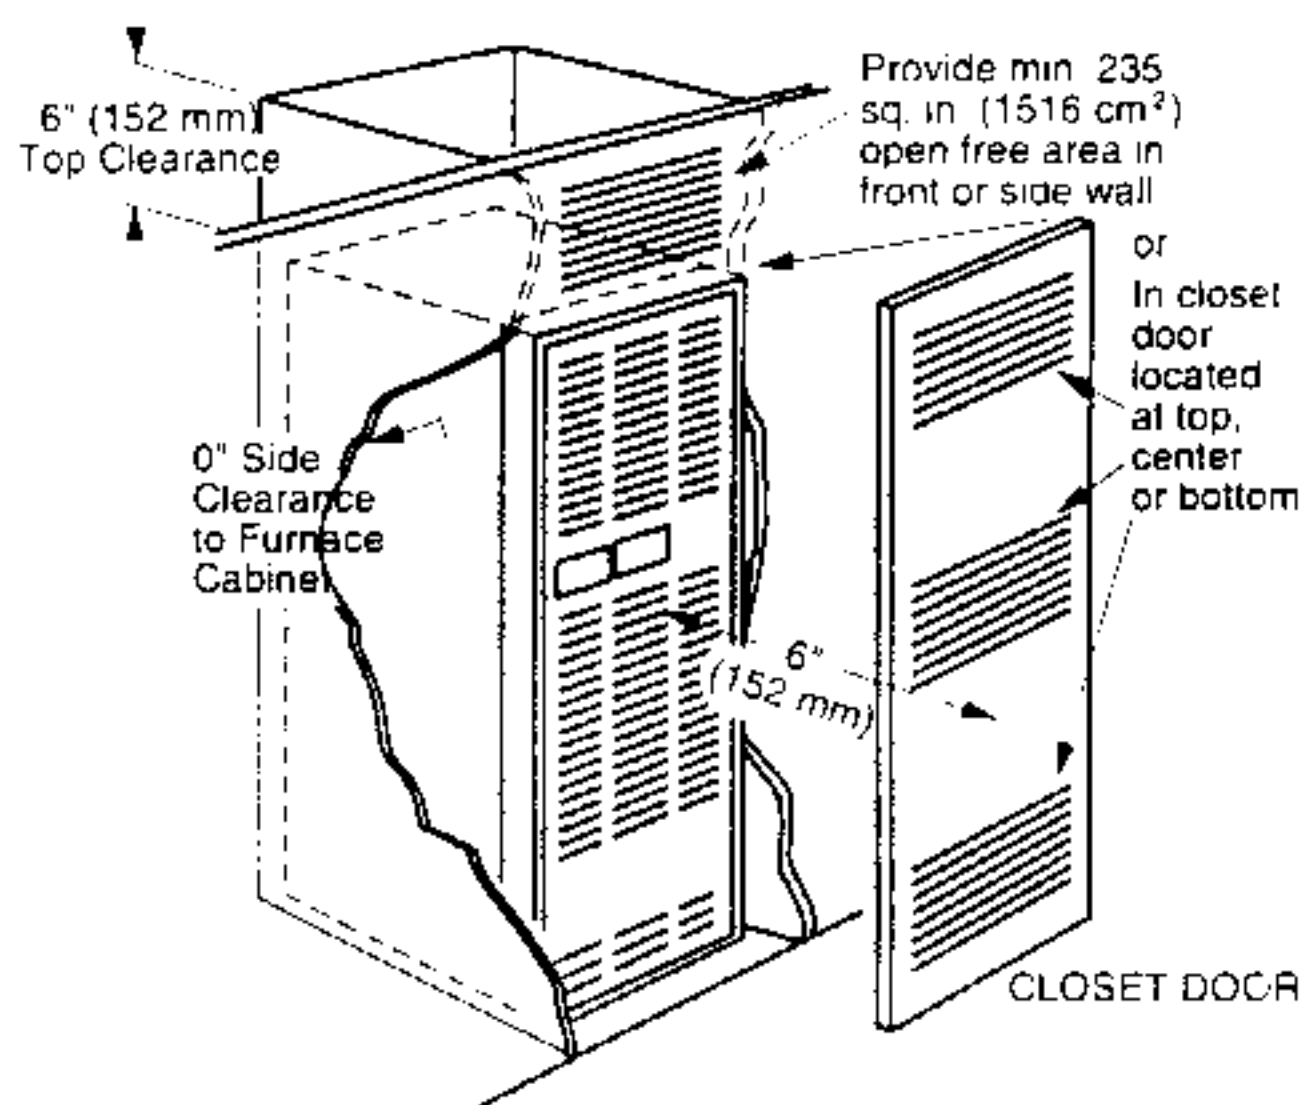
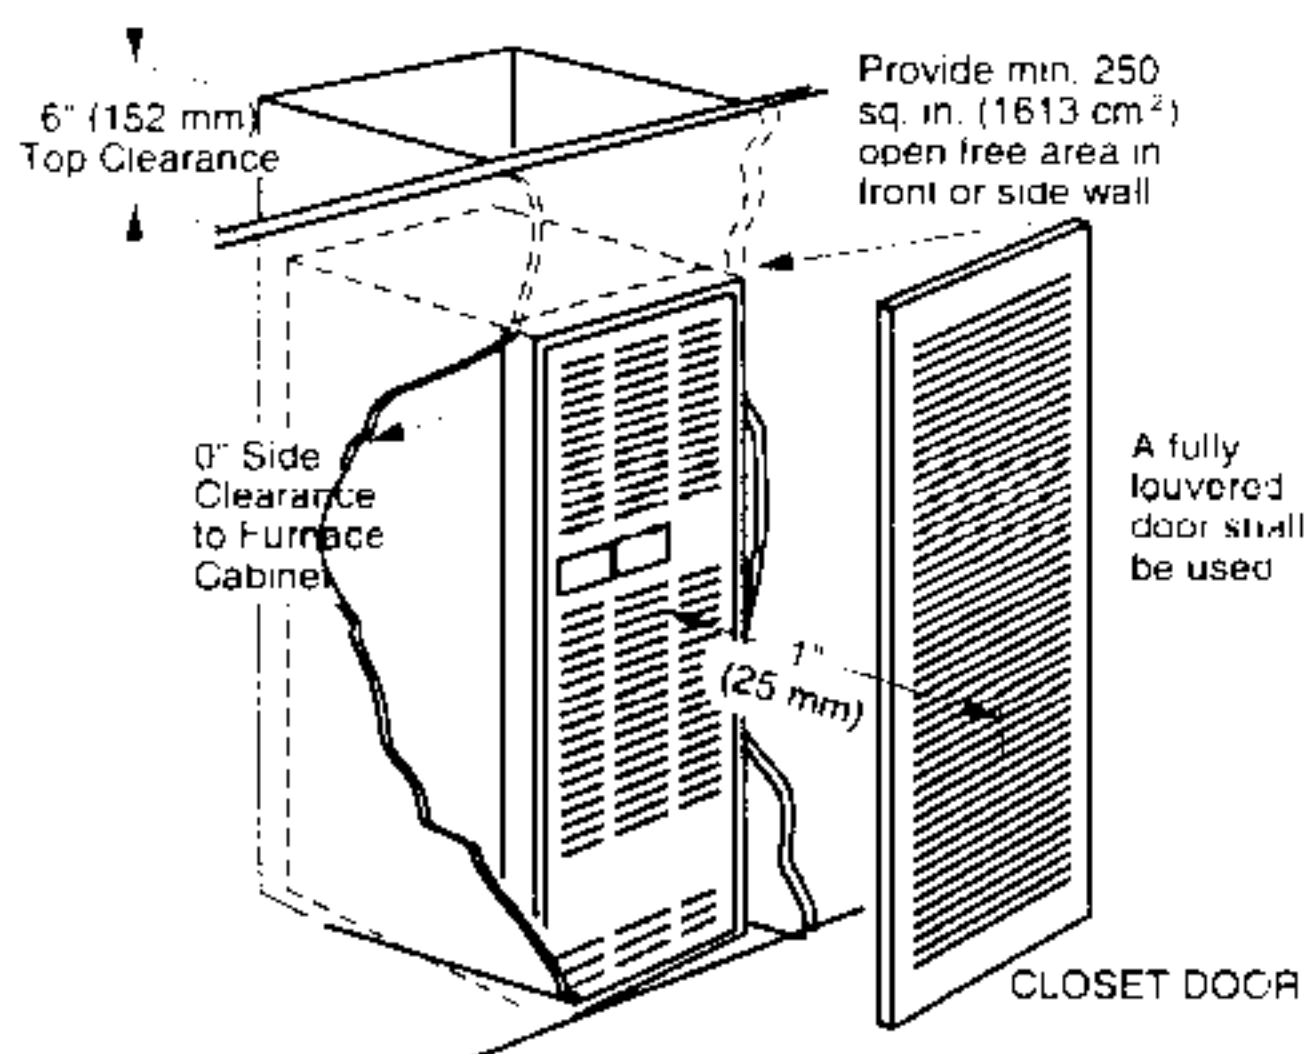

Figure 4. Closet Installation
Figure 5. Special 1" Clearance
- Closet installations must use a louvered door having a minimum free area of 235 sq. in. when located 6" from furnace (See Figure 4). For special clearance between 1" and 6", requirements are a louvered door with a minimum of 250 sq. in. free area, with the openings in the closet door directly in line with the louvered openings in the furnace door. A fully louvered closet door may be used (See Figure 5).